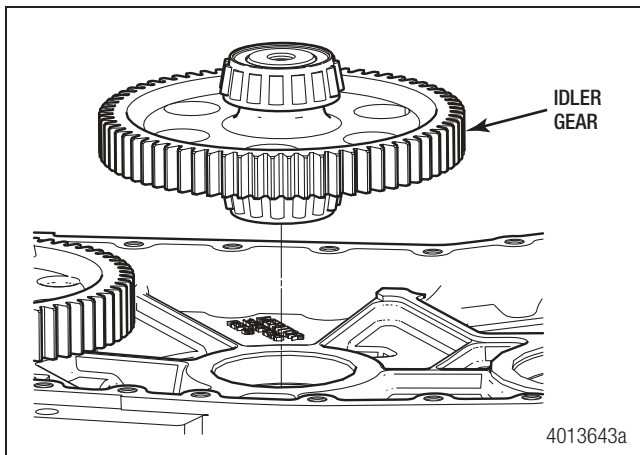

Figure 7.19
2. Install the idler gear assembly in the front case half. Figure 7.19.